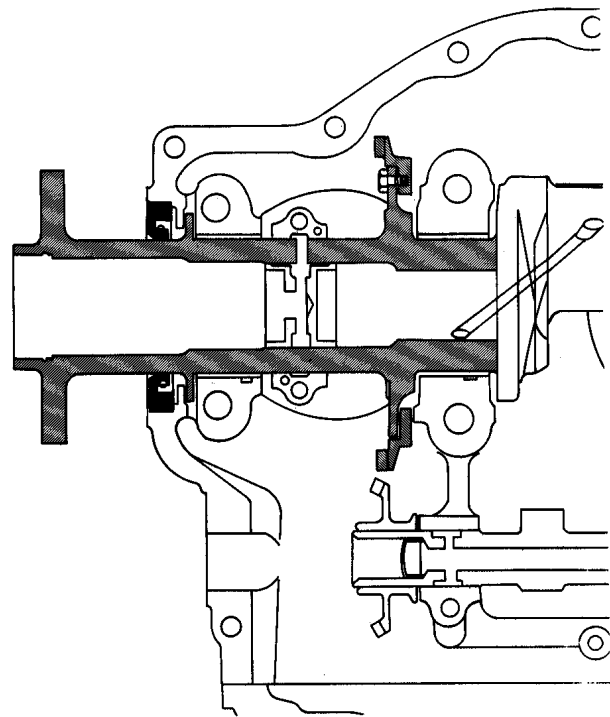

FIGURE 7-2. ALTERNATOR DRIVE GEAR INSTALLED.
b. Heat alternator gear (28) in oven at 300° F. for half hour or more and install on crankshaft (See Figure 7-2). Secure with four bolts (26).